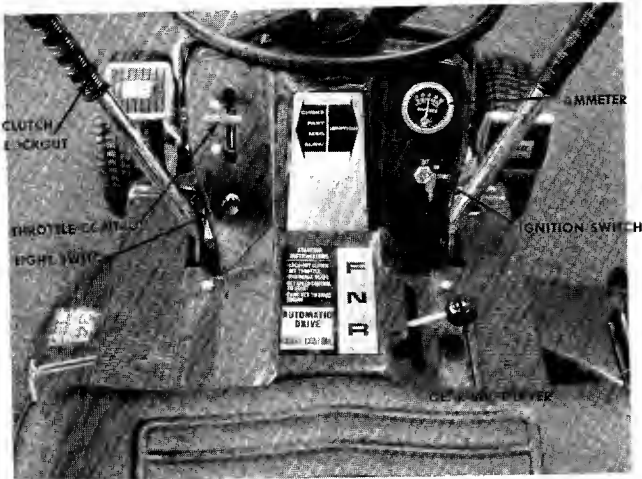

FIGURE 6. CONTROLS
a. **Throttle Control.** The throttle control is used to regulate the engine speed and choke the engine. The engine should be operated from $\frac{3}{4}$ to full throttle when operating the cutting deck or snow thrower (optional). See figure 6.
b. **Gear Shift Lever.** The gear shift lever is used to shift into FORWARD, NEUTRAL or REVERSE. See figures 6 and 7.
h. **Ammeter. (Electric Start Model Only.)** The ammeter registers the rate of battery charge or discharge. The ammeter should register on the plus side (+) when the engine is running in the fast position until the battery is completely charged. With a fully charged battery or with the engine idling the ammeter will not show a charge. See figure 6.
i. **Light Switch. (Electric Start Only.)** Pull the light switch out to turn on the lights. The lights will only operate when the engine is running. See figure 6.
Electric Start. See figure 6. Turn the key to the START position to start the engine. When the engine is running, let the key return to the ON position. To stop the engine, turn the key to the left to the OFF position and remove it to prevent accidental starting.
Step 4. Set the throttle control in the CHOKE position. See figure 6.